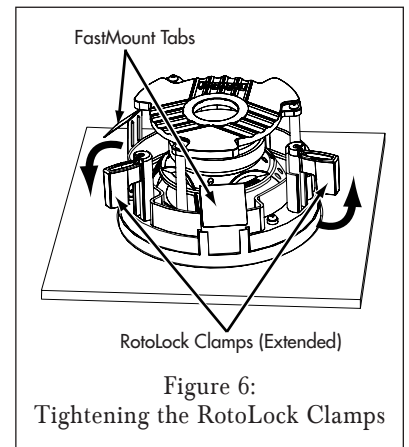

Figure 6: Tightening the RotoLock Clamps
6. Tighten the four screws on the front of the speaker baffle. The RotoLock clamps will automatically rotate into position and begin clamping the speaker (*Figure 6*).